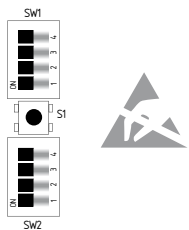

Fig. 3
**Time setting (see Fig. 3 and 4)**
- The DIP switches are located underneath the front cover of the safety-monitoring module (see Fig. 3 and 4).